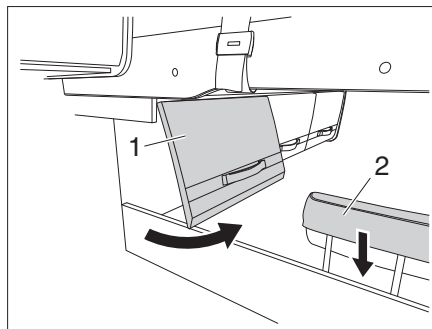

Fig. 154 Storage compartment flap and headrest
- Open the storage compartment flap (Fig. 154,1).
- Lower the headrest (Fig. 154,2).